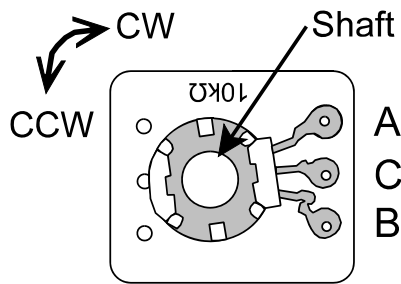

Figure 1-3
10. Orient the 10kΩ (or 5kΩ) potentiometer as shown in Figure 1-3. Note the position of terminals A, B and C (in the center).